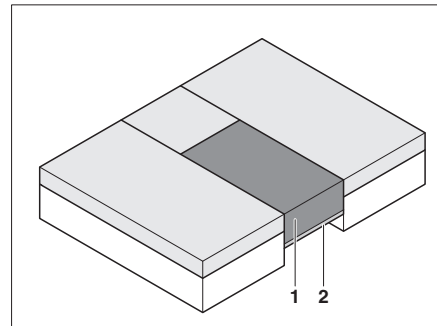

Fig. 77 After conversion
- Place the additional cushion (Fig. 77,1) on the extended slatted frame (Fig. 77,2).
Firmly press down to position the extra cushion (Fig. 77,1) at the same height as the other cushions.
- ▷ Insert and sit on the extra cushion (Fig. 77,1).